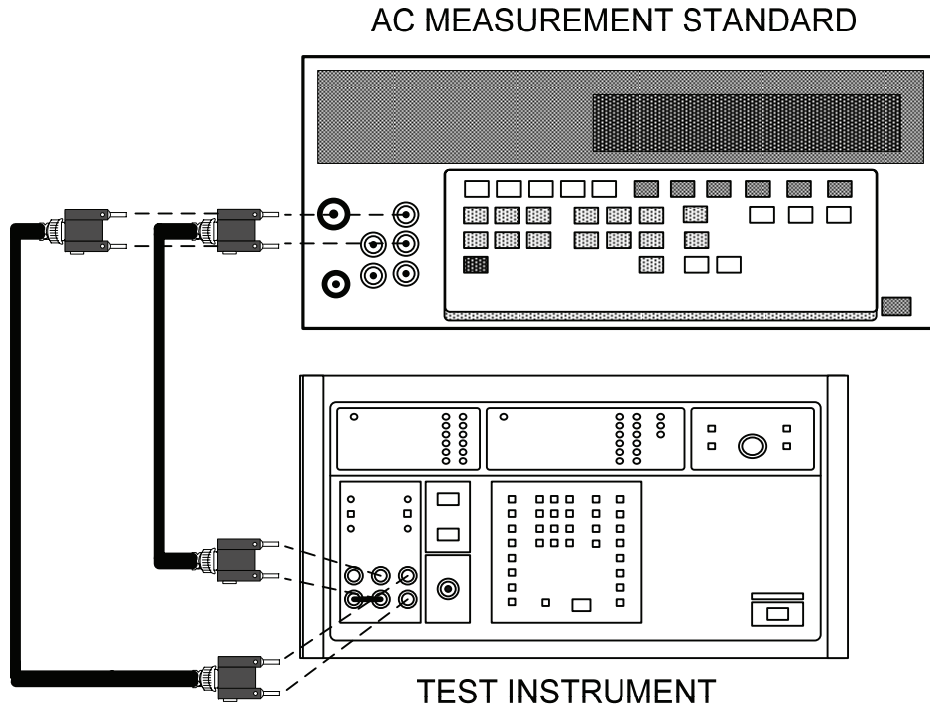

Figure 5. Ac voltage (2 mV through 1000 V).
- (1) Place ac measurement standard on top of TI and connect equipment as shown in figure 5. Press **INPUT 2** pushbutton on ac measurement standard.
- (2) On the ac measurement standard, press the **UTIL MENUS** pushbutton then the **MEAS CONTROL** soft key. Set **DIGITAL FILTER MODE** to **FAST** and **RESTART** to **MEDIUM**. Push the **DONE** soft key twice to return to the measurement display and set to **AUTO** range.
- (3) Program TI for a 2.10 V ac output at 1 kHz and press **ENTER**, **EXT SENSE**, and **OPR** pushbuttons.
- (4) Measure TI output. If ac measurement standard does not indicate between 2.0979 and 2.1021 V ac, perform **c** (1) below.
- (5) Press TI **STDBY** pushbutton.